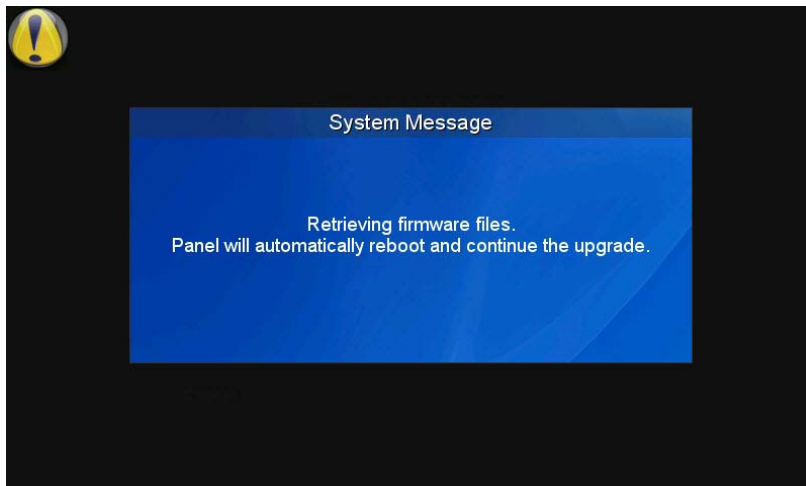

FIG. 97 Upgrading from Previous Firmware System Message
5. If you choose **Yes**, the device will retrieve the files and then reboot (FIG. 97).